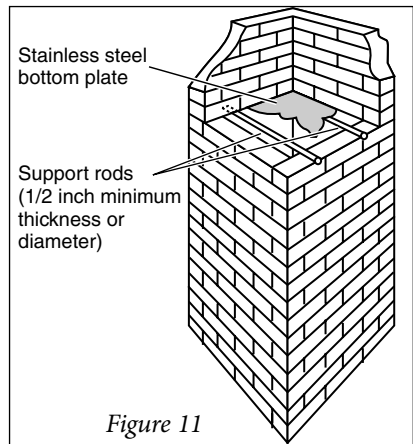

Figure 11
5. Install support rods and bottom plate as shown (Figure 11) so the take-off will line up with the thimble hole. The tee sits on the plate which supports the weight of the liner.